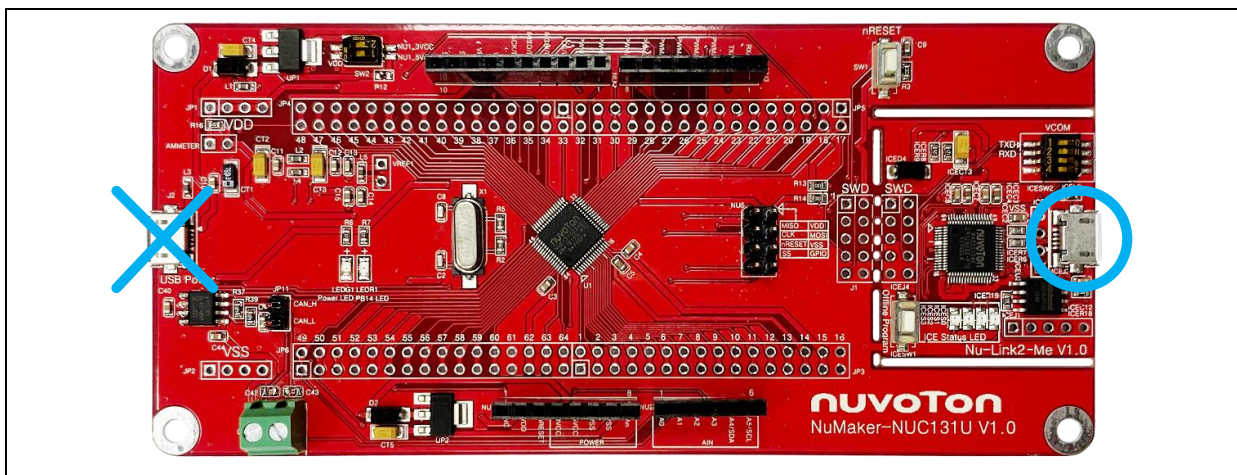

Figure 4-4 ICE USB Connector
2. Connect the ICE USB connector shown in Figure 4-4 to the PC USB port through USB cable.